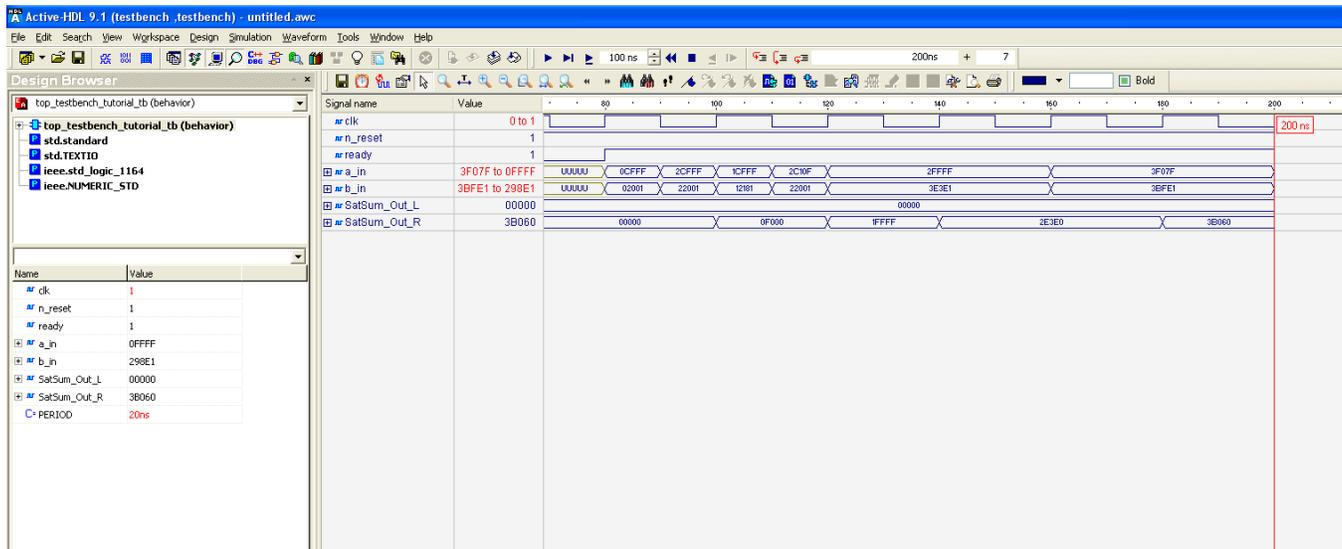

Figure 10 – Final Results from Test Bench
24. Another useful command is “restart”, this restarts the simulation from the beginning of the test bench. The final results from the test bench simulation should appear similar to Figure 10 below